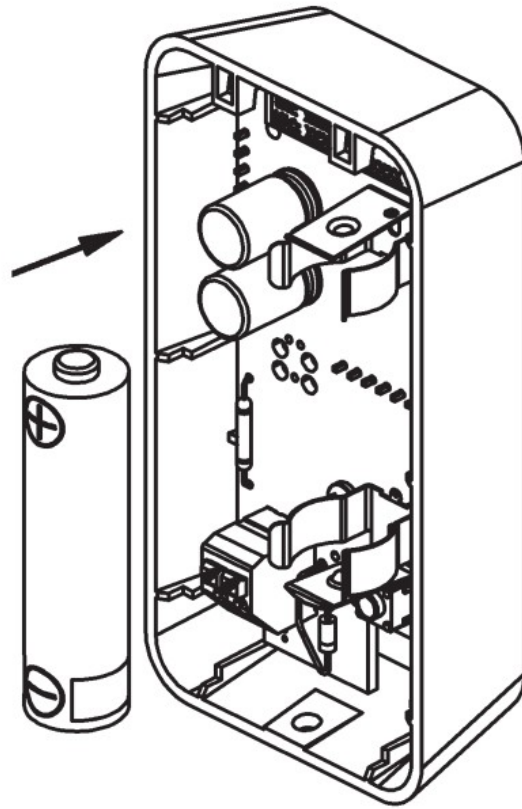

Fig. 6:
2. Remove the used battery from its holder and discard in an environmentally safe manner. Replace with a new battery in the correct orientation (Fig 6).